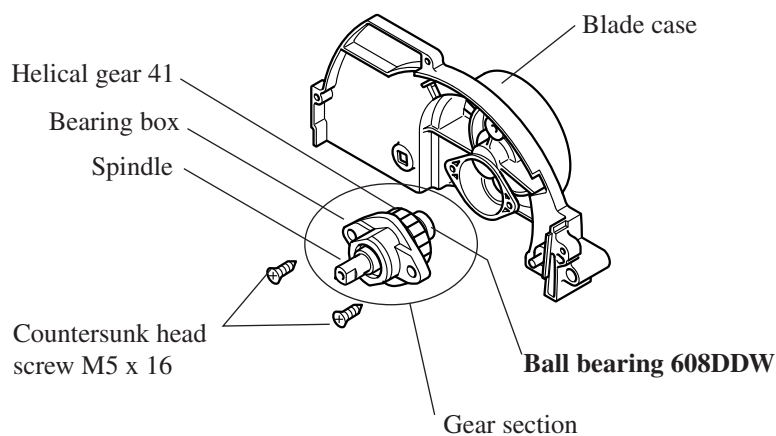

Fig. 1
- (1) Take off countersunk head screw M5 x 16 which is fastening bearing box. Then the gear section can be removed from blade case as illustrated in Fig. 1.